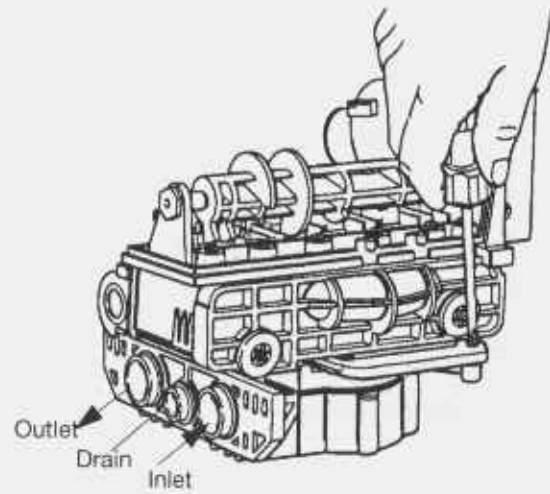

Figure 12
- Remove screw in locking bar (Figure 12).